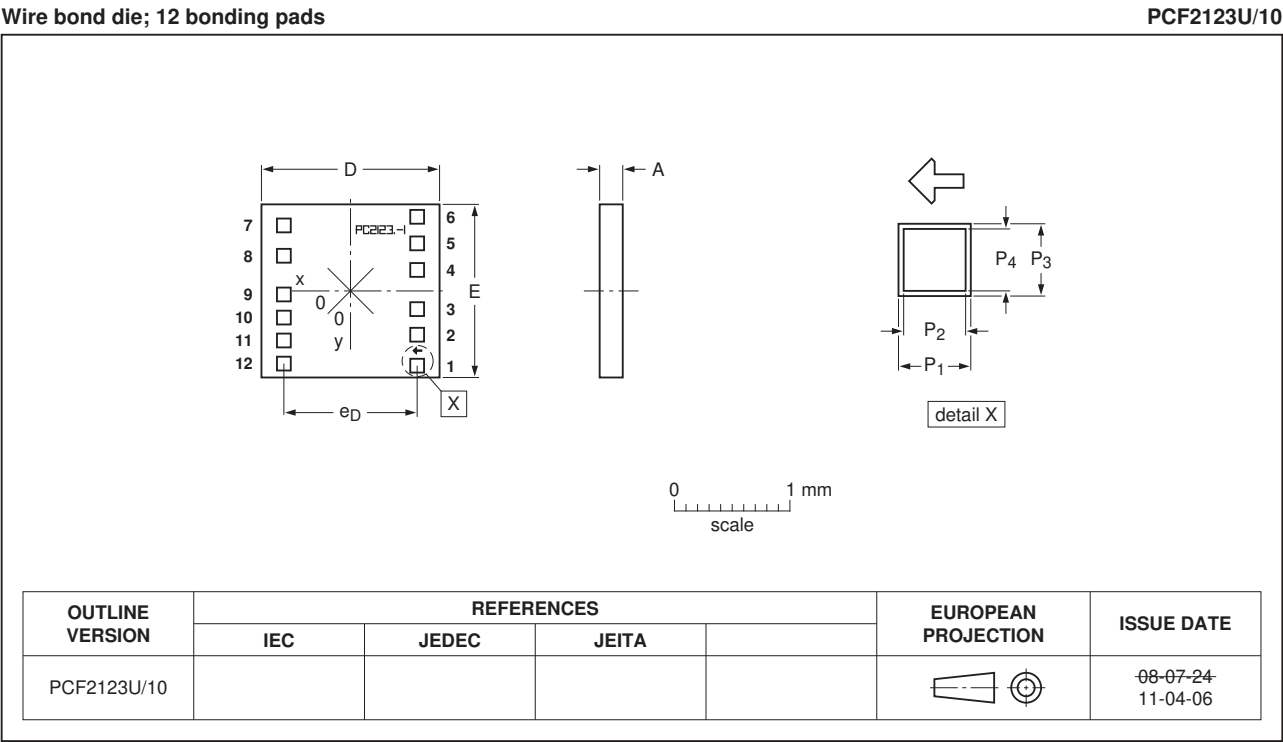
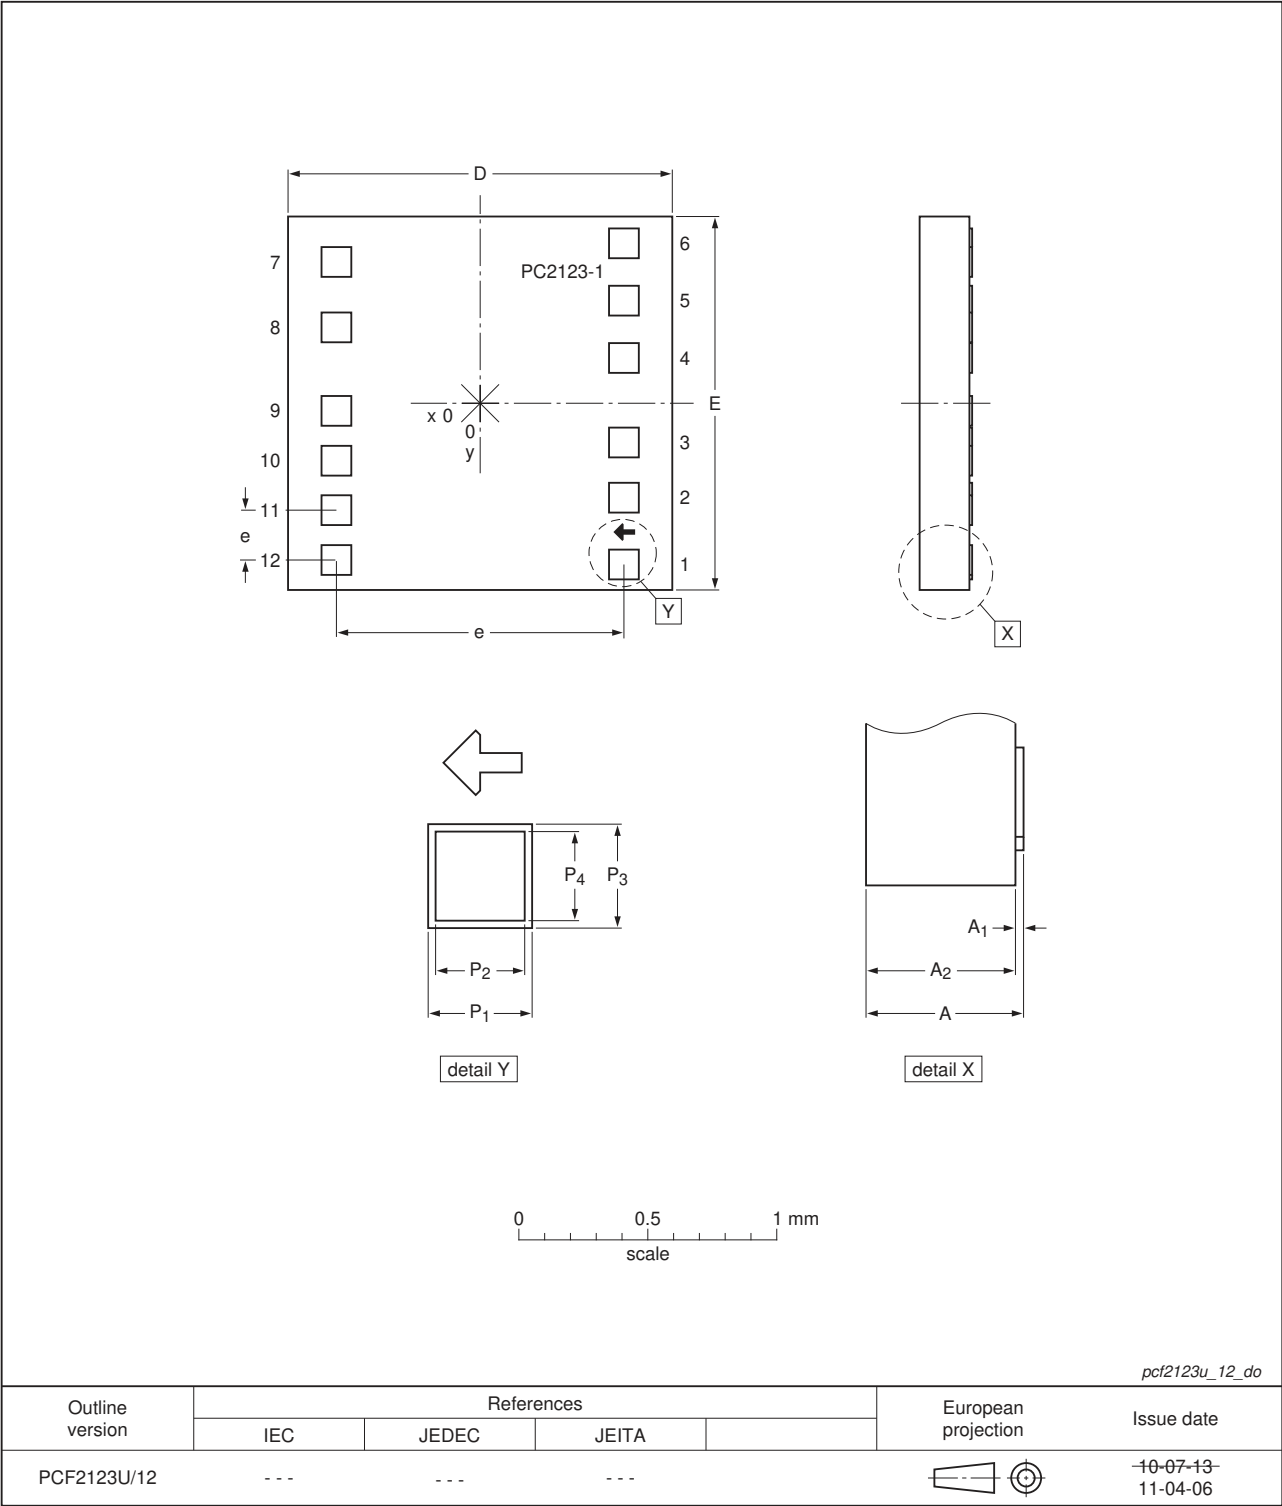

Fig 33. Bare die outline PCF2123U/10 of PCF2123U/5GA/1 and PCF2123U/10AA/1 (for dimensions see Table 47)
Fig 34. Bare die outline PCF2123U/12 of PCF2123U/12AA/1 and PCF2123U/12HA/1 (for dimensions see Table 48)
[3] P₁ and P₃: pad size.[4] P₂ and P₄: bump size.**Table 49. Bump locations of all PCF2123U types**All x/y coordinates represent the position of the center of each pad with respect to the center (x/y = 0) of the chip; see Figure 33 and Figure 34.
- [1] The x/y coordinates of the alignment mark location represent the position of the REF point (see Figure 35) with respect to the center (x/y = 0) of the chip; see Figure 33 and Figure 34.